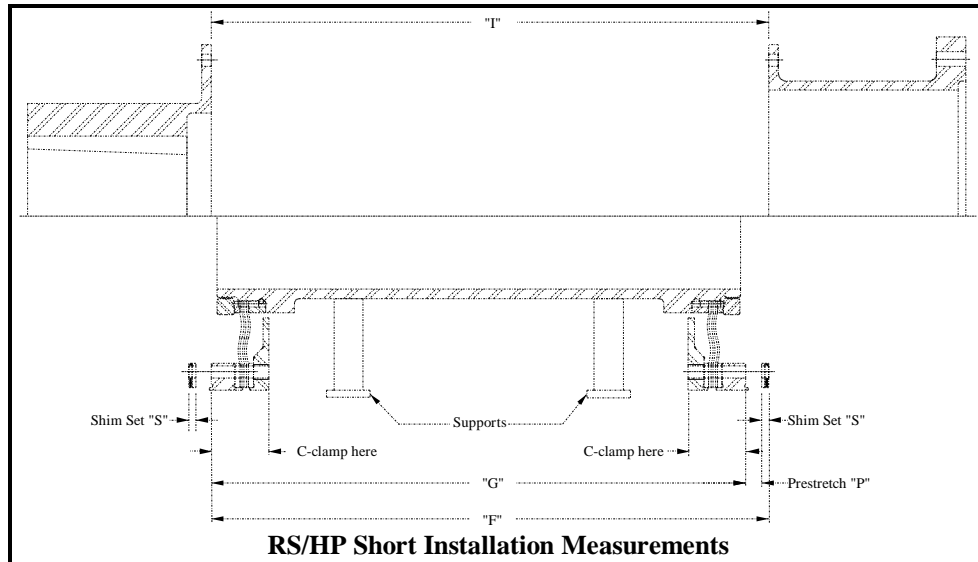

Figure 4-9
- 4.4.3.1 Measure and record , on the worksheet provided in Paragraph 4.4.5, the installation length "T" (distance between mounted flange faces) at four (4) places approximately 90° apart (see Figure 4-9).
- 4.4.3.2 Assemble the spacer rings, as shown on the Ameridrives Sales Drawing, onto both ends of the diaphragm pack sub-assembly taking care to re-align the matchmarks and end identification letters. Install a minimum of four (4) bolts approximately 90° apart through each spacer ring and tighten the bolts evenly in a crises- cross pattern to seat the pilots. On some size couplings the grip length of the bolts is too long to allow seating of the pilots in this manner. When this condition exists, a spacer plate, washers, shorter bolts, or C-clamps (not supplied) may be required to seat the pilots. Support as shown in Figure 4-9).
- 4.4.3.3 Measure and record, on the worksheet in Paragraph 4.4.5, the coupling free length "G" (distance between spacer ring outer flange faces) at four (4) places approximately 90° apart. It is recommended that C-clamps be used to compress the diaphragm pack at the location the measurements are being taken (see Figure 4-9).